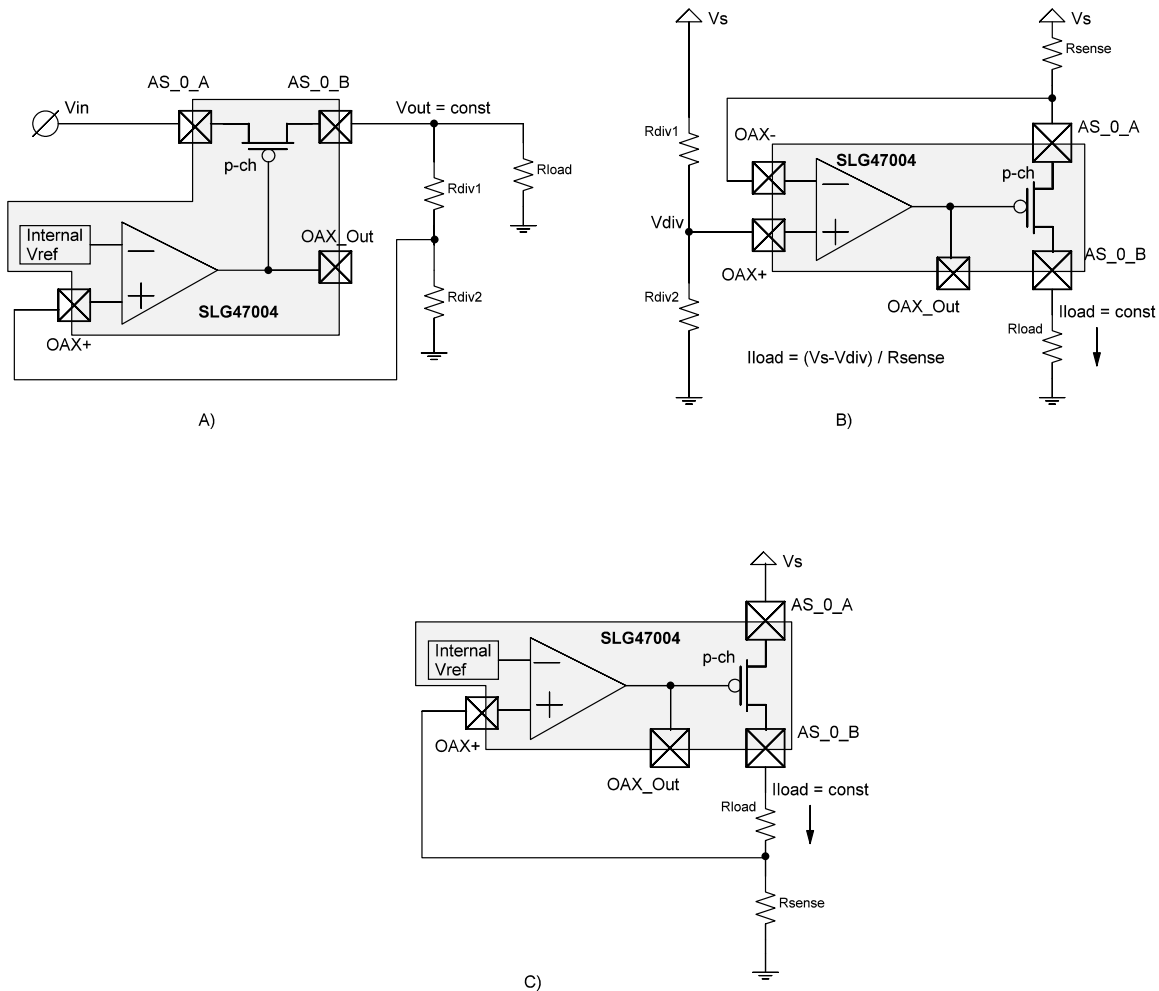

Figure 71: Typical Implementation of Voltage Regulator (A) and Current Sources (B, C)
In this mode, the op amp output drives P-FET (part of Analog Switch). Note that FETs of Analog Switches have different resistances. Analog Switch 0 has $R_{ds_PMOS} \ll R_{ds_NMOS}$, while Analog Switch 1 has $R_{ds_NMOS} \ll R_{ds_PMOS}$. That's why it is recommended to implement voltage regulator mode using Analog Switch 0. In this mode the op amp output is High when the macrocell is turned off. Figure 71 (A) shows the typical implementation of the voltage source function. Optionally, the
user can use this mode to implement a constant current source with load connected to ground (Figure 71, B, C). Note that op amp must operate in operational amplifier mode (register 750 = 0 for Op Amp0, register 751 = 0 for Op Amp1).